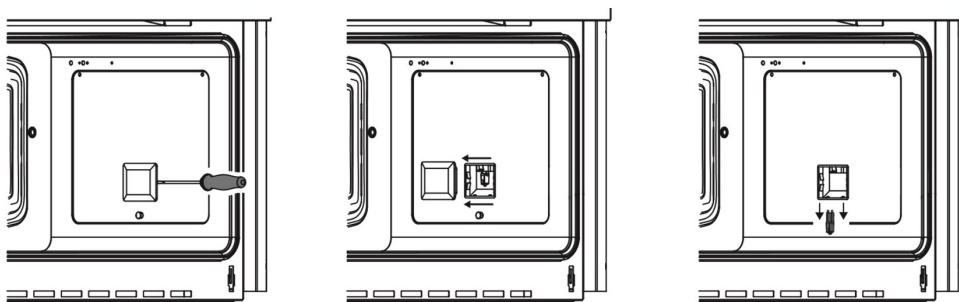

Fig. 14
- Take a screwdriver and lever under the glass lamp (fig. 14.)